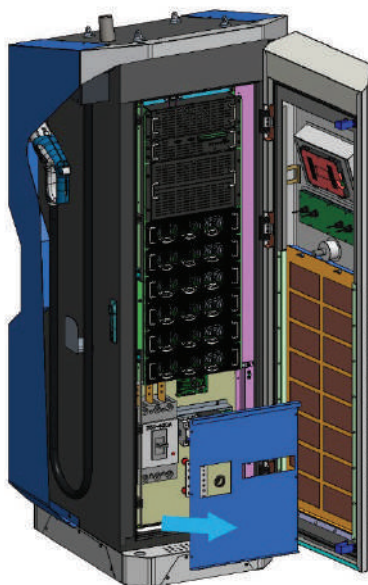

Figure 5.11
- Open the front door and use phillips screwdriver  to remove the front switch bezel, See Figure 5.11